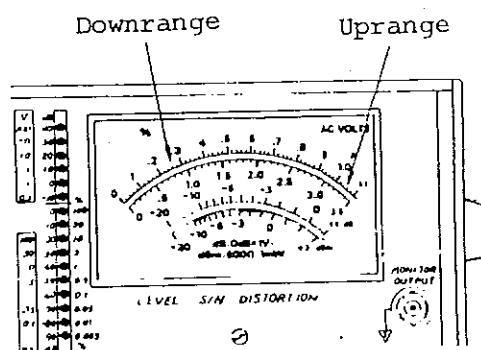

Fig. 4-2 Range switching points
- 19) Use the meter (9) at the right to measure the level. Ignore the small meter (7), which reads the same as the large meter in the 0.3 V (-10 dB) range or higher.
- 20) The range is switched automatically near the points indicated by the arrows (↓) in Fig. 4-2.